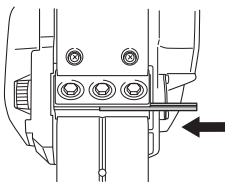

Fig. 11
- (2) As shown in **Fig. 11**, mount the new carbide blade by sliding it on the set plate (B) so that the blade tip projects by 1 mm from the end of the cutter block.